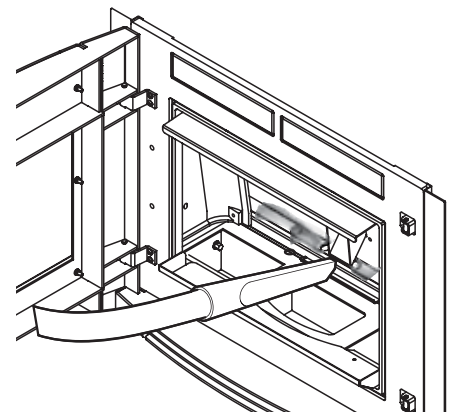

Fig.15.8
- 3) vacuum up any residual ash or soot that may have accumulated on the wall behind the back plate (Fig.15.8).